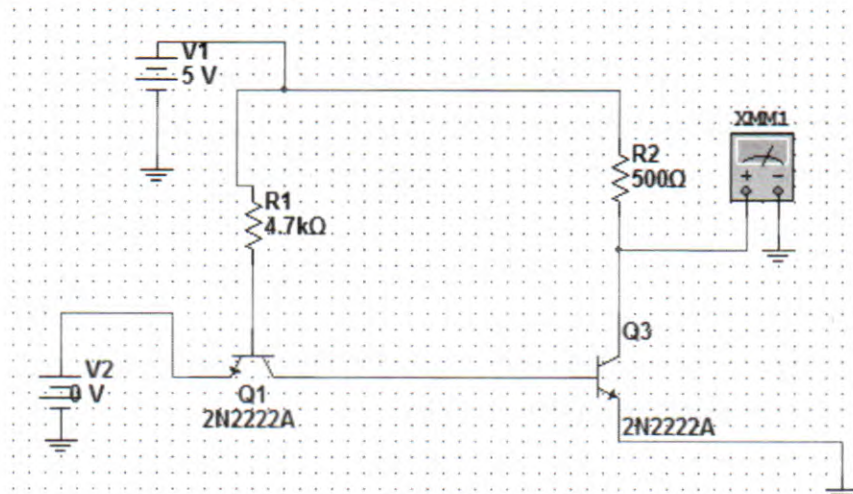

Figure 5.1: Basic TTL Inverter Circuit
1. Draw the diode equivalent circuit of Figures 5.1 and 5.2.
1. Build and simulate the circuit shown in Figure 5.1. Measure the output voltages V_{OH} and V_{OL} .